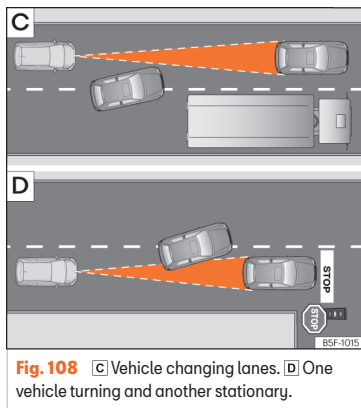

Fig. 108 [C] Vehicle changing lanes. [D] One vehicle turning and another stationary.
- Vehicles that move into your lane, a short distance from your vehicle >>> **Fig. 108 [C]**.
The ACC does not react to stationary vehicles. If, for example, a vehicle detected by the ACC turns or moves over and there is a stationary vehicle in front of it, the ACC will not react to the second vehicle >>> **Fig. 108** .